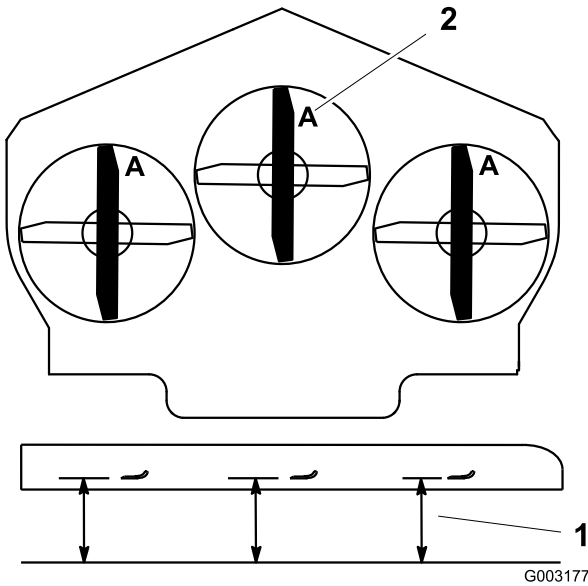

Figure 87
3. Rotate the blades until the ends face forward and backward (Figure 87). Measure from a level surface to the cutting edge, position A, of the blades (Figure 87). Note this dimension.